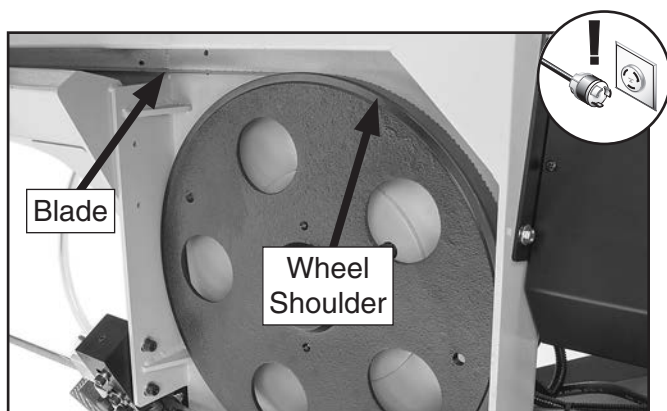

Figure 29. Blade installed on wheels.
8. Use one hand to hold blade in place, then work your way around the blade, making adjustments so back of blade lightly touches shoulder of wheels, as shown in **Figure 29**.